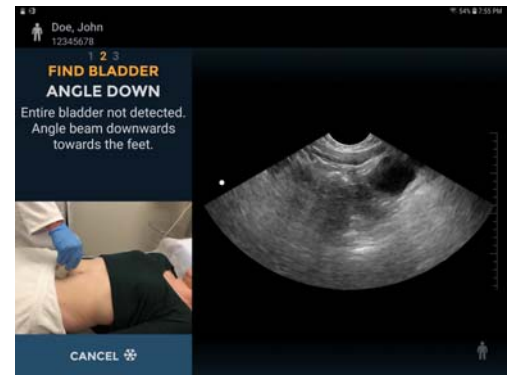

Fig 3.3 Transducer Positioning
- If the probe is incorrectly positioned, the display will prompt the user to angle the probe (Fig 3.3).